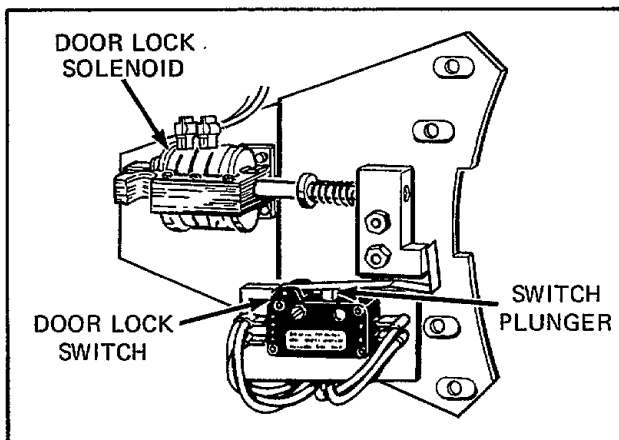

Figure 56
53. **DOOR LOCK SOLENOID** (Refer to Figure 56)